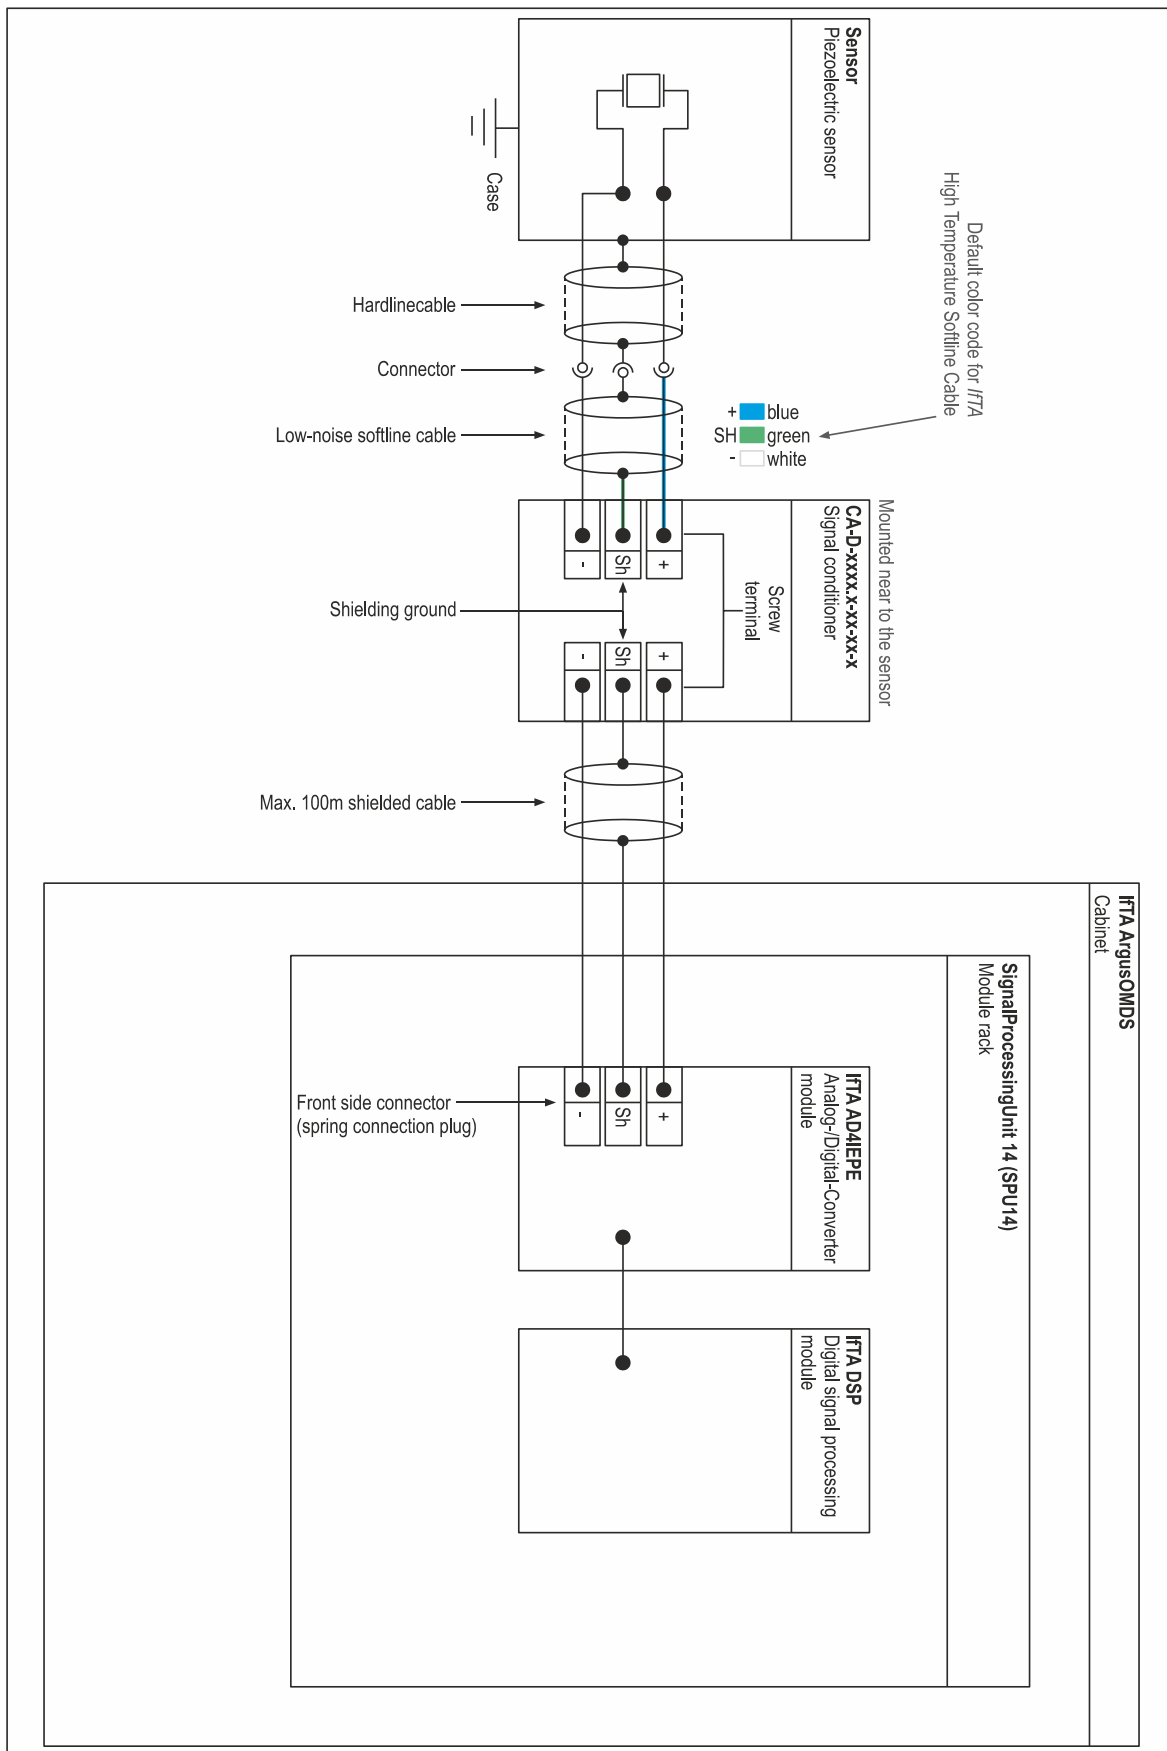
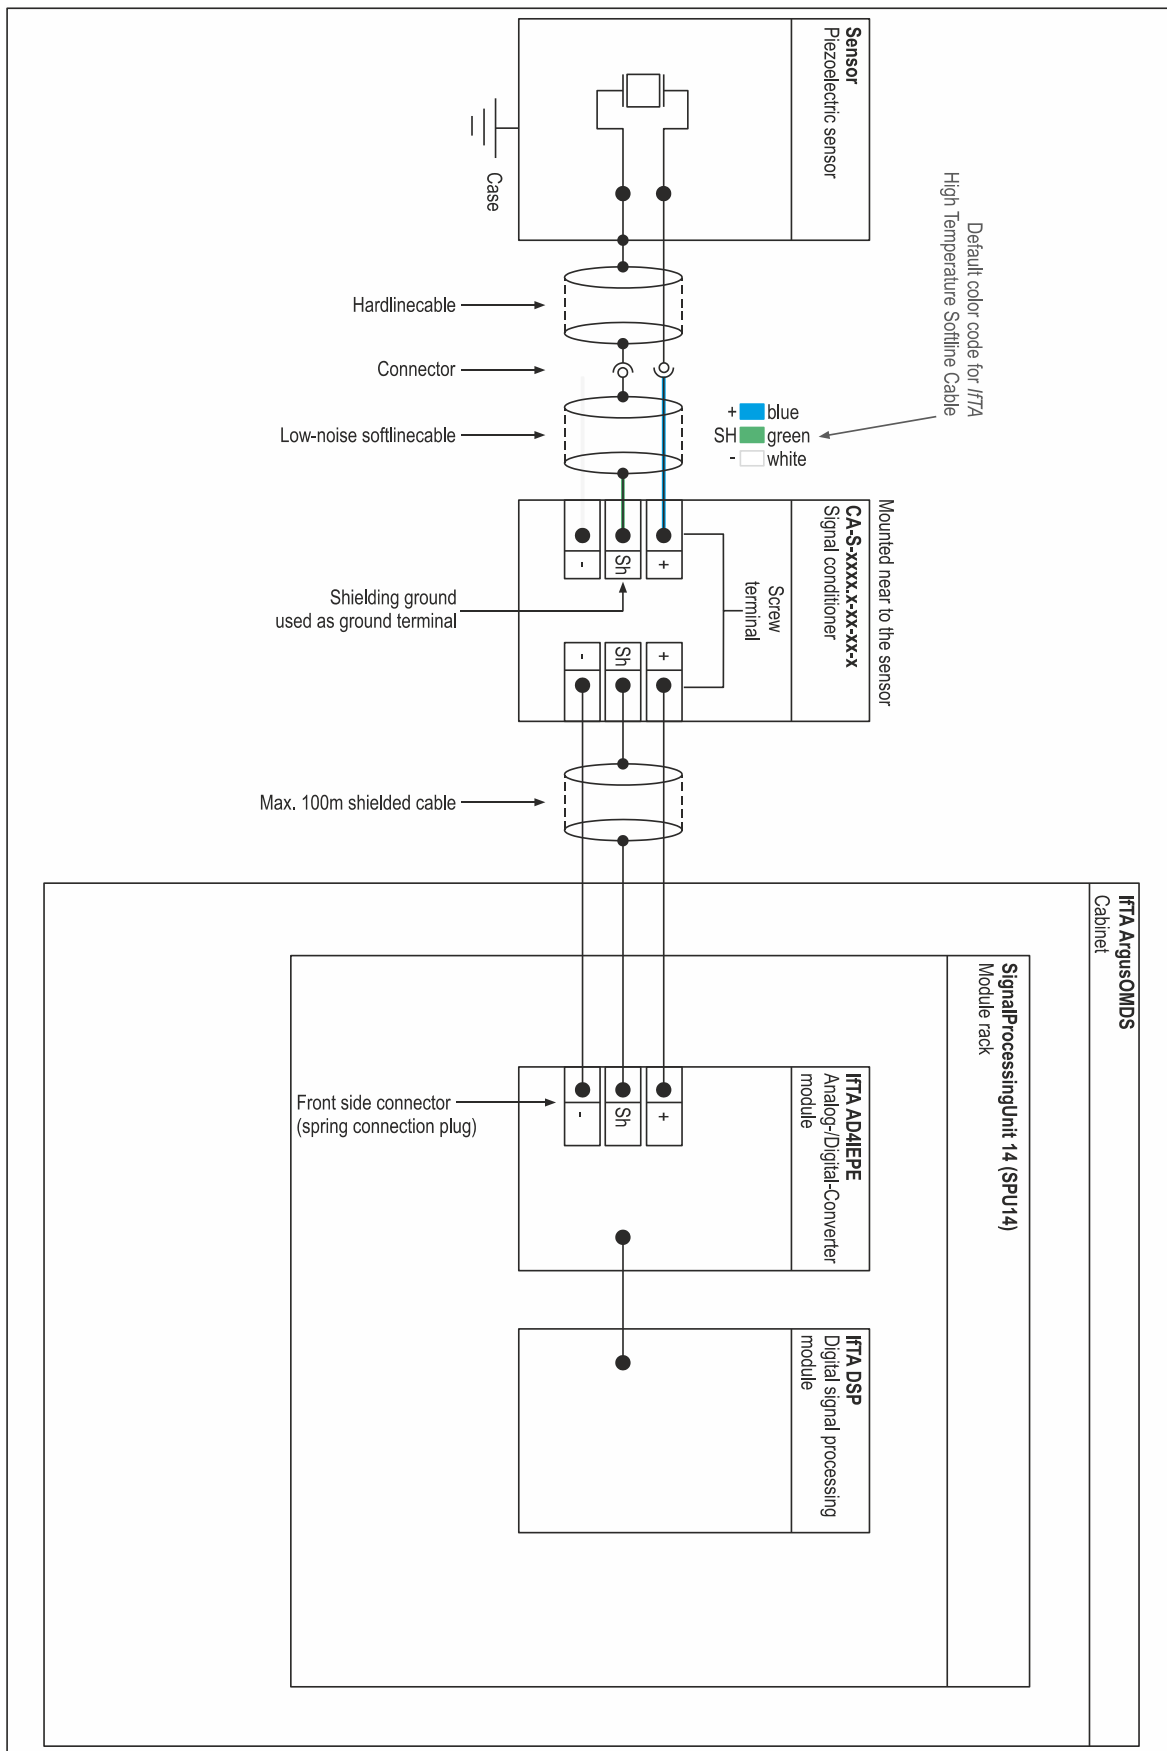

Figure 7: Schematics of the differential mode measurement chain (figure similar, subject to modification)
Figure 8: Schematics of the single ended mode measurement chain (figure similar, subject to modification)
3-pin screw terminal (the exact pin assignment is shown in *Figure 7* and *Figure 8*)
For detailed information regarding the pin assignment see **Figure 7** and **Figure 8** below.
The CA is best used in a measurement setup with an *IFTA* system like the *ArgusOMDS*. This chapter includes two example configurations for both differential and single ended mode and the use with an *ArgusOMDS* system. The schematics are shown in the **Figure 7** and **Figure 8** below.
- (1) Ensure that the cable type is fitting the described specification above.
- (2) Connect the cable to the corresponding pin of the two screw terminals (the exact pin assignment is shown in **Figure 7** and **Figure 8**).
- (3) Install the cover of the industrial housing again.